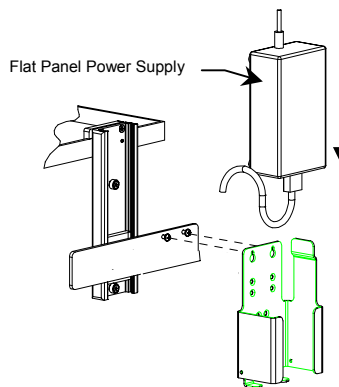

FIGURE 3
4. Attach the Power Supply Holster to the right side of the Cross Member using the (4) #10-32 x 3/8" flat head machine screws provided. Insert the Flat Panel Power Supply into the Holster. (Fig. 3)